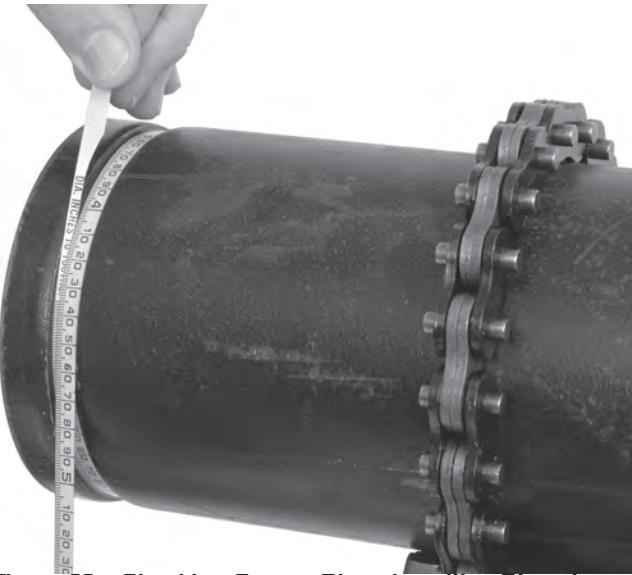

Figure 22 – Checking Groove Diameter with a Diameter Tape
2. Measure the groove diameter with diameter tape (see *Optional Equipment Section*). Snugly wrap the diameter tape around the pipe in the groove. Make sure that the tape sits flat in the bottom of the groove, and read the groove diameter (see *Figure 22*). Compare the measured groove diameter to the required groove diameter as shown in *Table II* or *III* or as specified by the groove fitting manufacturer.